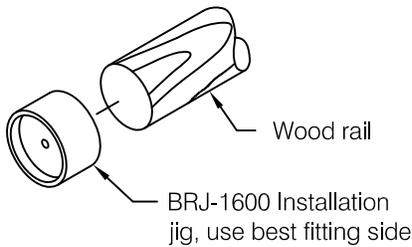

fig 3
- Step 4:** With wood rail cut to length use BRJ-1600 drill jig to locate and drill mounting hole for BRA-1625 aluminum insert at all locations that will receive a wall return or corner accessory, see **fig 3**. With drill jig seated flush against end of rail drill into wood a minimum of 1" deep using a 3/16" diameter drill bit in the jig center hole.